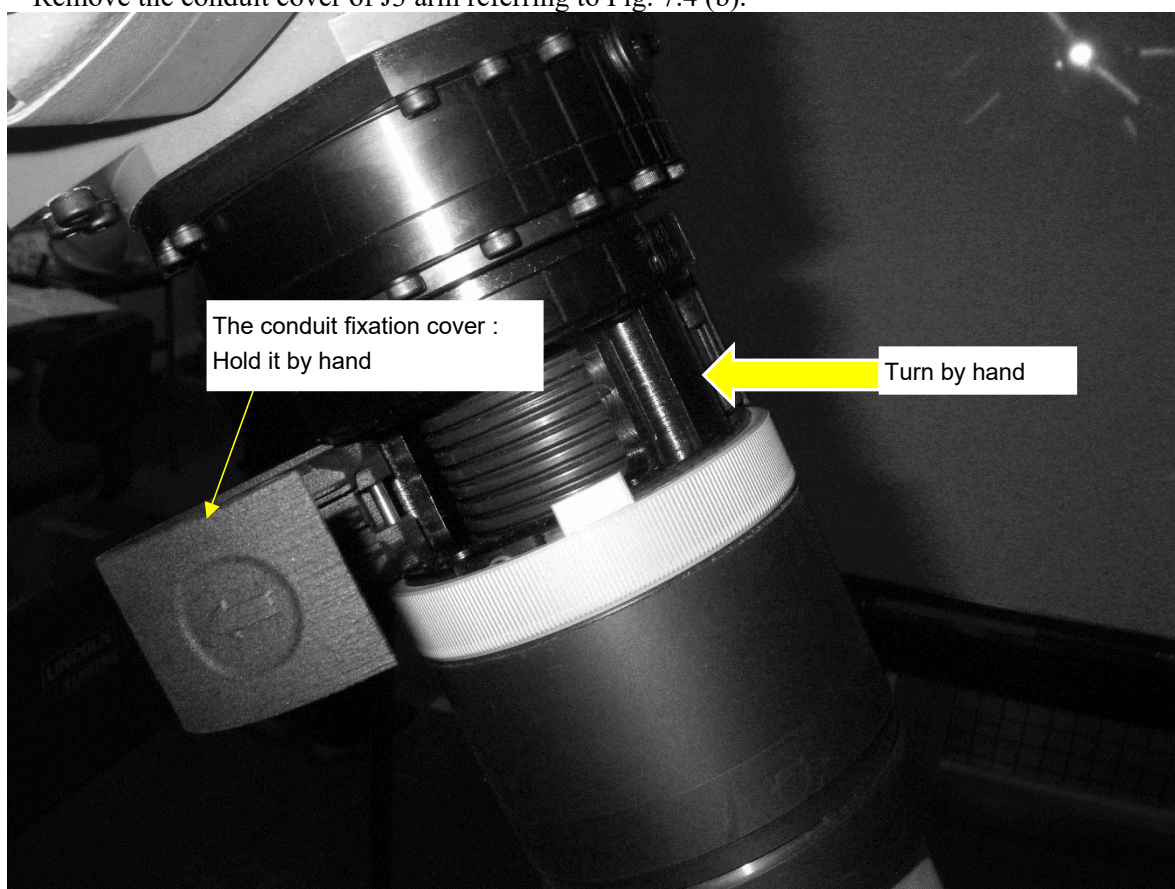

Fig. 7.4 (b) Remove conduit
- 5 Loosen the fixation two bolt of torch side referring to Fig.7.4 (c).